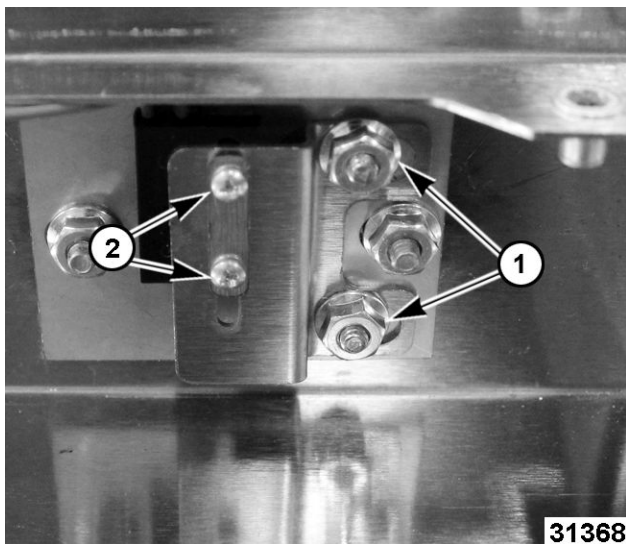

Fig. 18
3. Remove two lock nuts (1, Fig. 18).
4. Remove two screws (2, Fig. 18) to release switch from bracket.